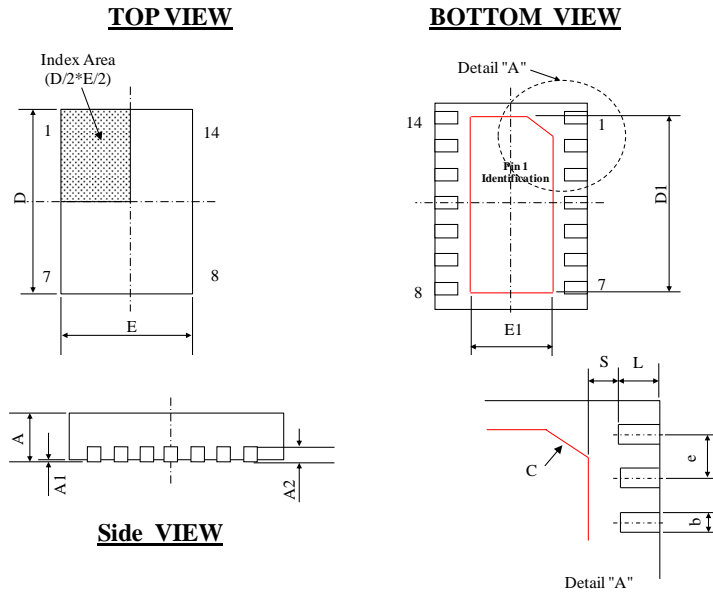

**Figure 6. Recommended PCB Layout**
A recommended PCB layout is shown in Figure 6. In order to dissipate the package heat, the package center pad (MC) must be connected to a large copper area on the bottom side through multiple via.